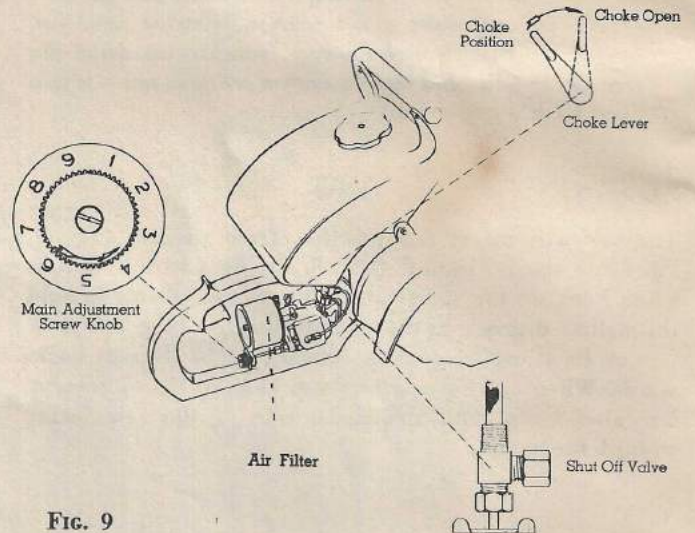

FIG. 9
Open completely the gas shut off valve (Fig. 9, Pg. 8) located on the side of the gas tank.
1. Check to see that the carburetor dial (Fig. 9, Pg. 8) is set at number 7. Move the choke lever (Fig. 9, Pg. 8) to choke position. Choked position (Fig. 9, Pg. 8) is back toward the air filter.
4. After the engine starts gradually work the choke lever (Fig. 9, Pg. 8) back as the engine warms up.
5. After the engine warms up, choking is not necessary to start again. Choking a warm engine or over choking a cold engine will cause flooding. Should the engine flood, continue cranking with the choke in "off" position (Fig. 9, Pg. 8) until the engine starts, or close shut off valve (Fig. 9, Pg. 8) until the engine starts.
At the end of each day's operation, close the shut-off valve (Fig. 9, Pg. 8) and let the engine run until it stops. This uses up all the fuel in the carburetor and permits easy starting the next time you use the saw.
1. The carburetor has 2 adjustments—the main adjustment (Fig. 9, Pg. 8) and the idle adjustment. The main adjustment is the numbered dial (Fig. 9, Pg. 8) at the front of the carburetor and the setting is held against the bump on the air filter cover. The idle adjustment is located on top of the carburetor. The usual setting of the main adjustment is at number 7 or $3/4$ of a turn open and the idle adjustment is also $3/4$ of a turn open.
2. It is important in operating the saw that the main adjustment (Fig. 9, Pg. 8) is at the proper setting. To check this setting—first warm the engine up by running for approximately 5 minutes. Put the saw in a cut. If the engine runs unevenly and lacks power the main setting is too rich. The main adjustment should be turned gradually to the right toward a lower number until the engine seems to level out and run fastest in a cut. Do not turn too far to the right (closing the adjustment) as the fuel mix will be too lean and the engine will tend to die down in a cut. Usually the best position will be someplace between numbers 6 and 7. Do not totally close the main adjustment too tightly as it will damage the needle.